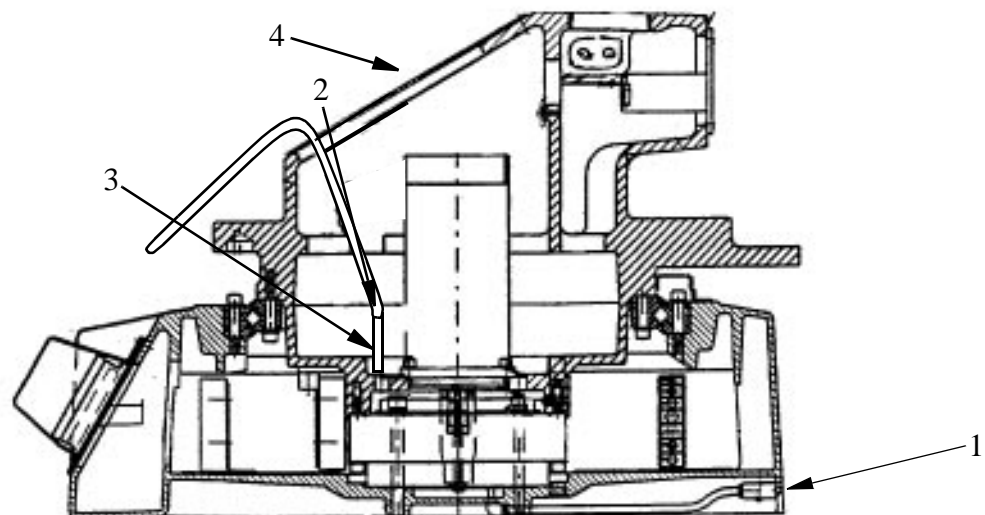

Figure 6 Lubricating axis 1.
- Remove the cover on the base (4), see Figure 6.
- Remove the plug (3).
- Grease through the nipple (1).